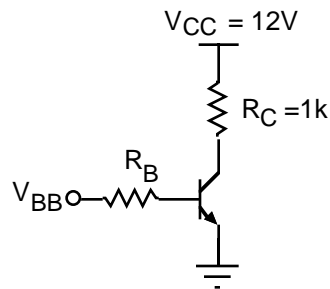

Fig 5.3
- a) If $V_{BB} = 10\text{ V}$ in the circuit of Fig 5.3, calculate what values of R_B to